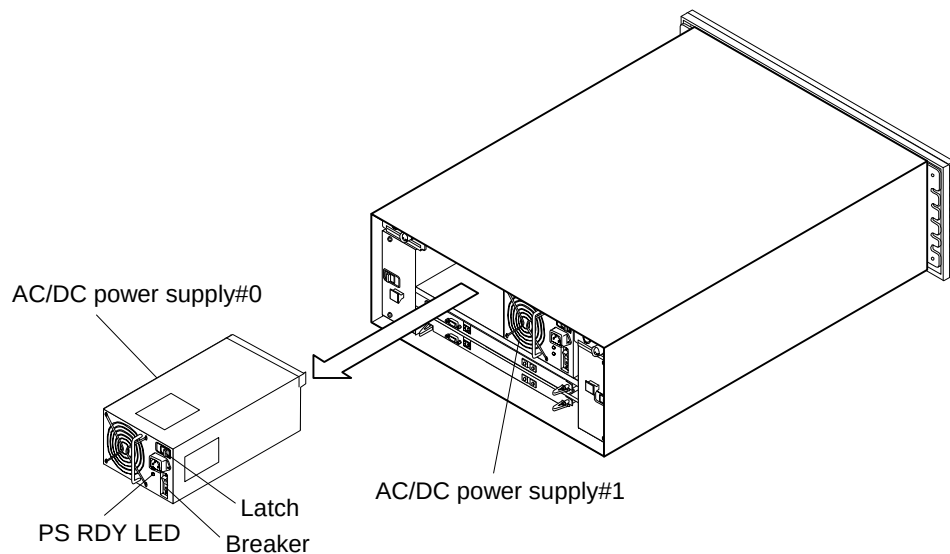

Figure 4.3.12 Replacing AC/DC Power Supply
(1) Procedure for replacement with the power turned on (See Figure 4.3.12)